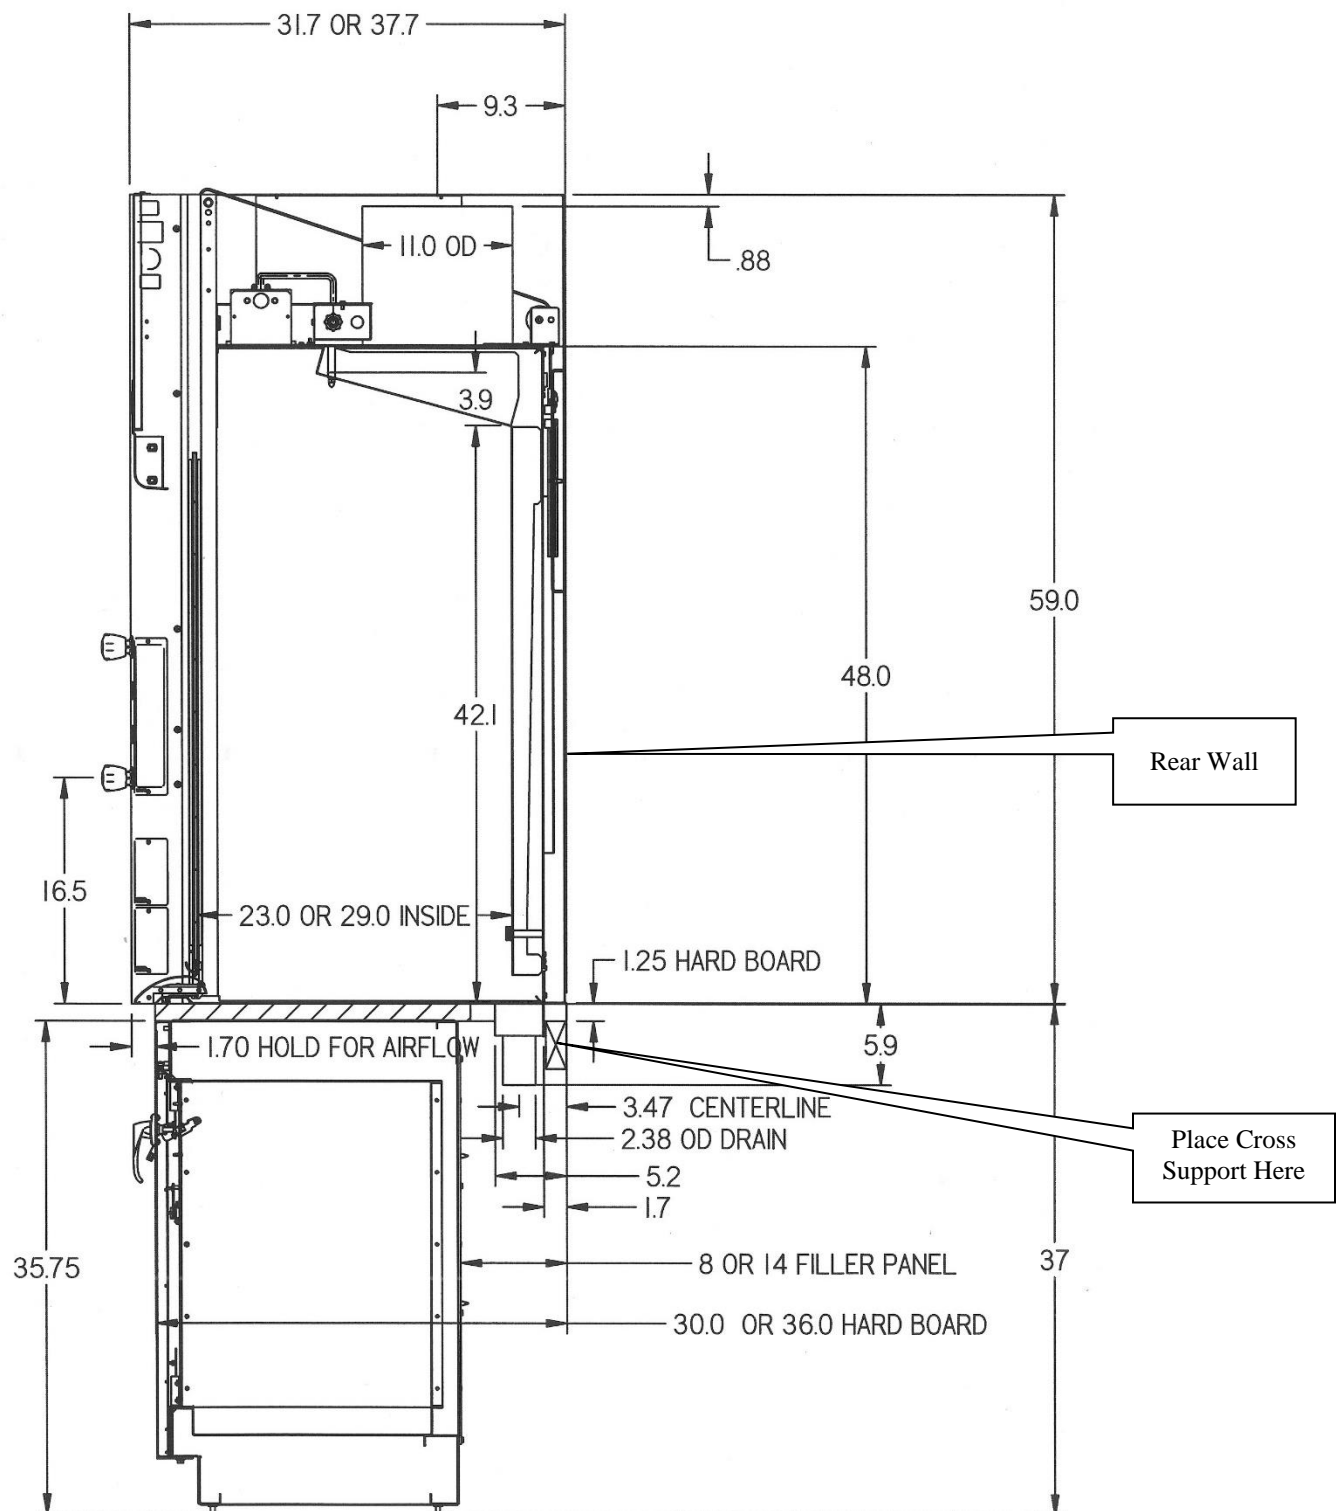

Figure 3-2
When installing the Protector Perchloric Acid Hood onto the lower hardboard work top, ensure that the structure can safely support the combined weight of the fume hood and any related equipment. **The hardboard work top is aligned flush with the back of the fume hood for good airflow: this will provide the correct spacing under the air foil for proper bypass airflow. The lower base cabinets are placed flush with the front of the hardboard work top as shown in Figure 3-2. The hardboard work top supports the Perchloric Acid Hood and has a cutout to clear the drain trough.**
5. Secure the hardboard surface to the top of the base cabinet(s) using adhesives with the Acid Storage Cabinet(s). Be sure the Perchloric Acid Hood drain trough is accounted for in the relief area of the hardboard top. See figure 3-2.
The Protector Perchloric Acid Hood has been supplied with a 2" nominal (2.375" OD) Type 316 pipe drain. Connect the 2" pipe to your floor drain. Be sure the connection is either fully solvent bonded or leak tight. See Figure 3-2.